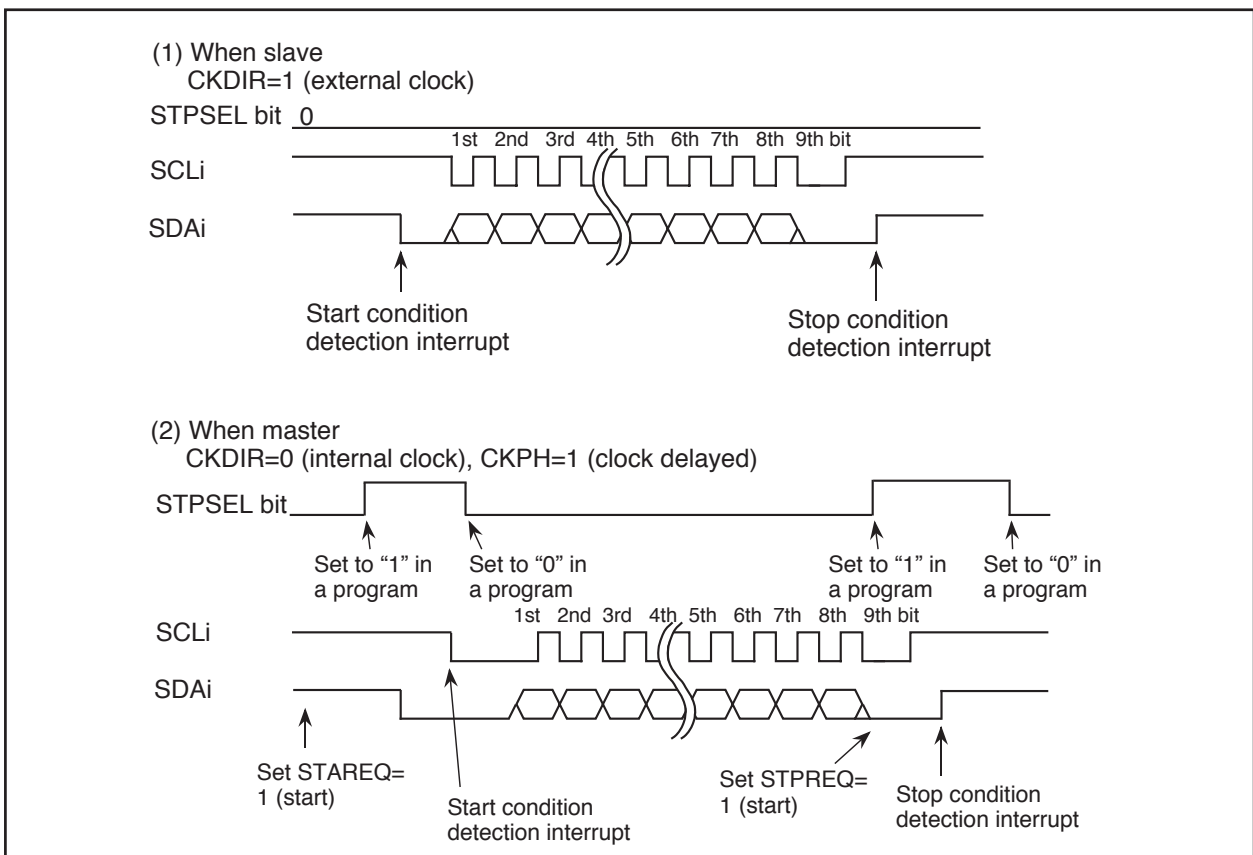

Figure 1.16.4. STSPSEL Bit Functions
- See **Figure 1.16.4 STSPSEL Bit Functions**.
The function of the STSPSEL bit is shown in Table 1.16.5 and Figure 1.16.4.
Data is transmitted/received using a transfer clock like the one shown in Figure 1.16.4.